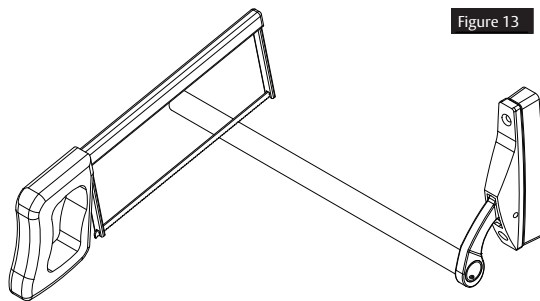

Figure 13
2. Mark bar at inactive case and cut. (Figure 13) Length of crossbar should be flush to 1/16" less than flush from face of crossbar arm.